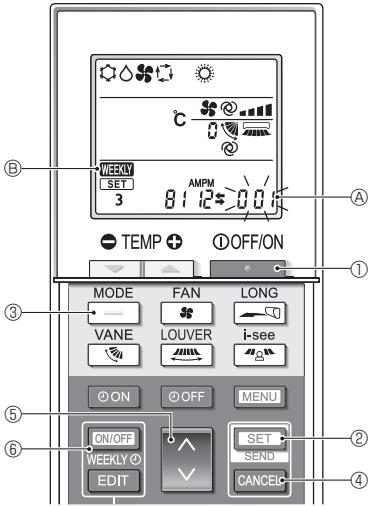

Fig. 6-7
#### 6.8.8. How to disable Auto mode operation (Fig. 6-7)
- 1.Press the **—** button ① to stop the air conditioner.
- If the weekly timer is enabled, press the **ON/OFF** button ⑥ to disable the timer. (**WEEKLY** Ⓑ disappears.)
- 2.Press the **SET** button ② for 5 seconds.
- 3.Press the **↑** button ⑤.
- 4.Completing the settings (Fig. 6-7)
- Press the **SET** button ② for 5 seconds.